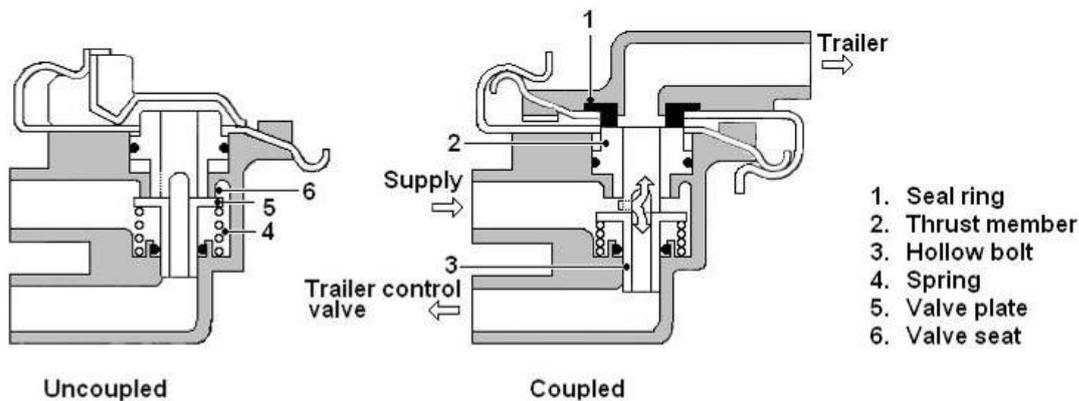
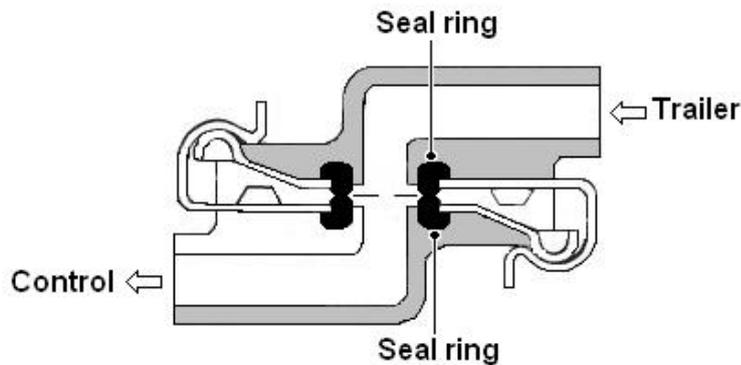

Figure 43 Trailer Brake Supply Coupling
Figure 44 Trailer Brake Control Coupling
**92. Trailer Brake Couplings.** Two types of couplings are fitted to the truck; the supply coupling (Figure 43) which is self-sealing and the control coupling (Figure 44), which is open when disconnected.